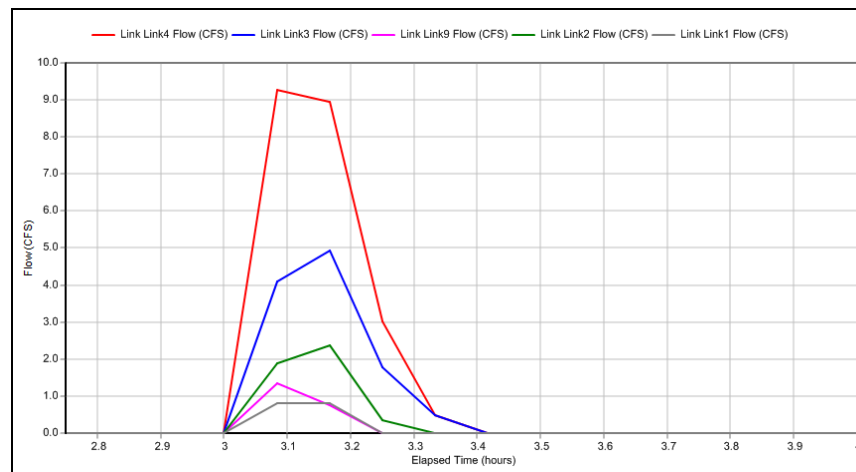

Figure 13 Plot of Flow vs. Time for several links in the model
8. On the *Axes* tab, select *Bottom Axis* and enter “2.0” as the *Minimum*, “5.0” as the *Maximum*, and “0.25” as the *Increment* and click **OK** to close the *Graph Options* dialog and return to the plot (Figure 13).